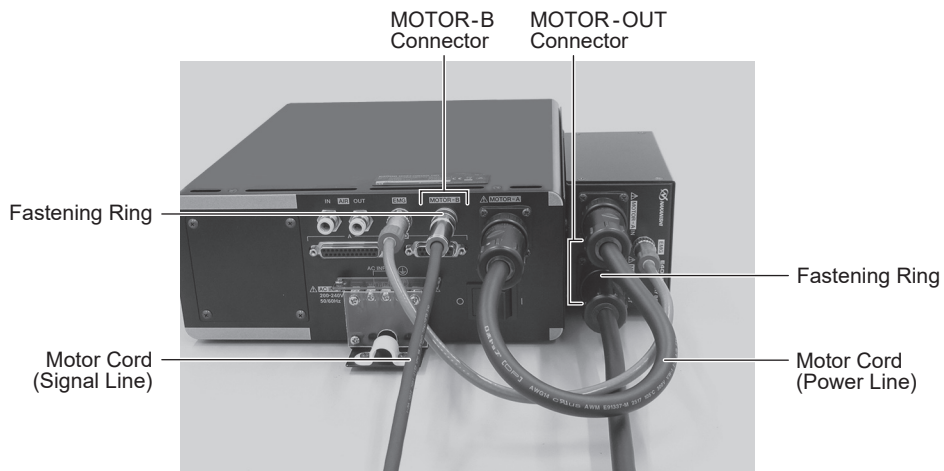

Fig. 8
- ⑤ Insert the Motor Cord Plug (Motor Power Line) into the MOTOR-OUT Connector of the SAFETY RELAY BOX, Secure the Fastening Ring turn the clockwise (Fig. 8).
Insert the Motor Cord Plug (Motor Signal Line) into the MOTOR-B Connector of the CONTROLLER, Secure the Fastening Ring turn the clockwise (Fig. 8).